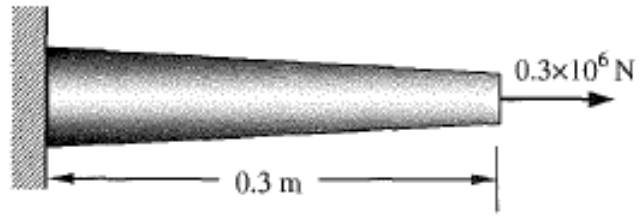

Figure P6.10
10. A tapered bar with circular cross-section as shown in **Figure P6.10** is fixed at $x = 0$, and an axial force of $0.3 \times 10^6 \text{ N}$ is applied at the other end. The length of the bar (L) is 0.3 m , and the radius varies as $r(x) = 0.03 - 0.07x$, where r and x are in meters. Use $E = 10^{10} \text{ Pa}$.